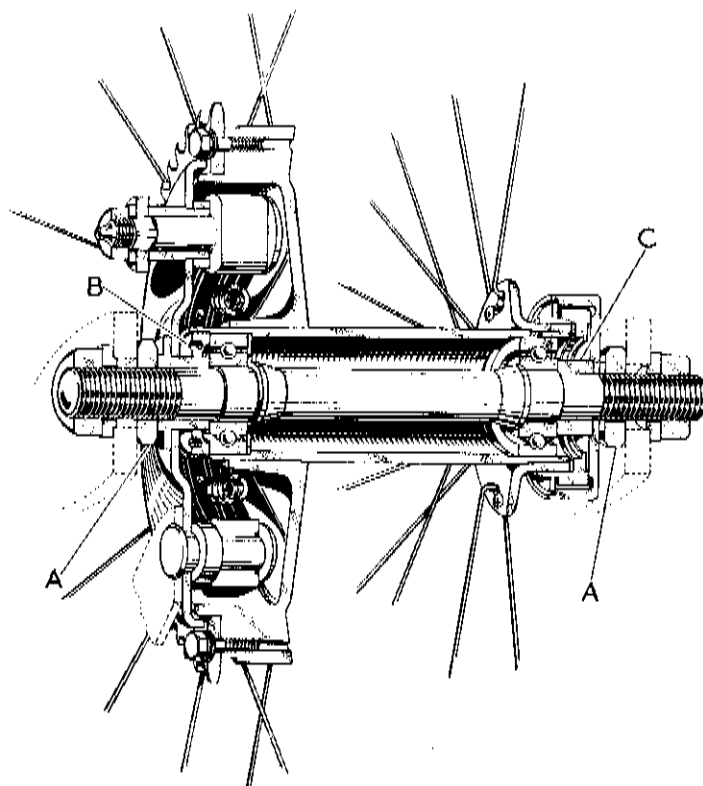

Fig. D32.
Unscrew the large nuts (A) Fig. D32 on the spindle, locking the spindle in the same way as described for the front wheel. Remove the brake cover plate complete with shoes and then the speedometer drive gearbox from the right-hand side. (Note the distance piece and driving dogs).
After fitting the drive side bearing and its retainer, insert the spindle from the right hand side, drive in the right hand bearing to the shoulder on the spindle, slide the distance piece (C) Fig. D32 over the right-hand side of the spindle, then the speedometer gearbox taking care to mesh the driving dogs and screw on the spindle locknut. This nut can be finally tightened after the brake cover plate is fitted.